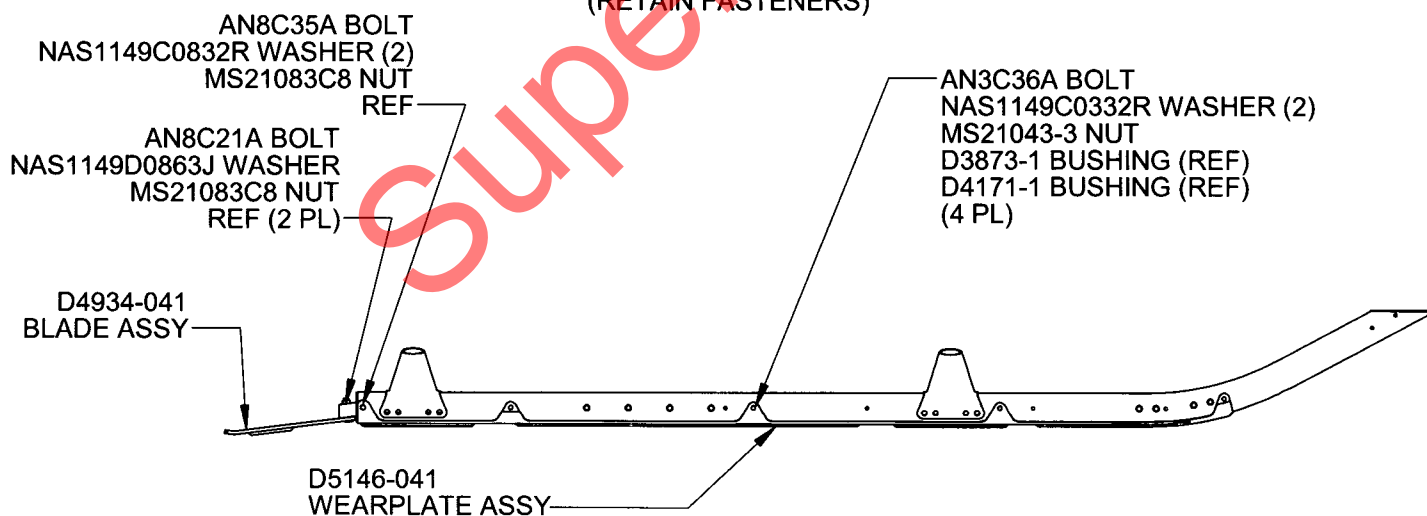

FIGURE 4: D350-636-113 WEARPLATE INSTALLATION
- 5.3 Refer to Figure 4 below. Install the D4934-041 Blade Assy. Torque the AN8C21A bolts to 480-690 in-lbs (54.2-78.0 N-m).
- 5.4 Refer to Figure 4 below. Install the D5146-041 Wearplate Assy as shown. Torque the AN3C36A bolts to 15-25 in-lbs (1.7-2.8 N-m). Torque the AN8C35A bolt to 480-690 in-lbs (54.2-78.0 N-m).